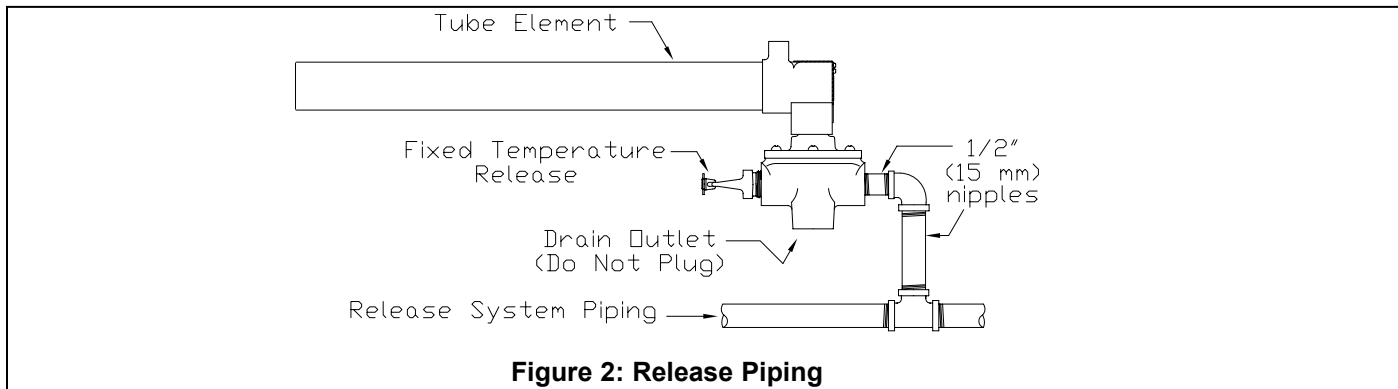

Figure 2: Release Piping
- Unless otherwise specified in the Technical Data, release piping should be 1/2" galvanized steel or hard copper piping. The interior of the 1/2" (15 mm) release line must be cleared of foreign material prior to release installation. Connect each thermostatic release to release piping using 1/2" (15 mm) NPT nipples as shown in Figure 2.